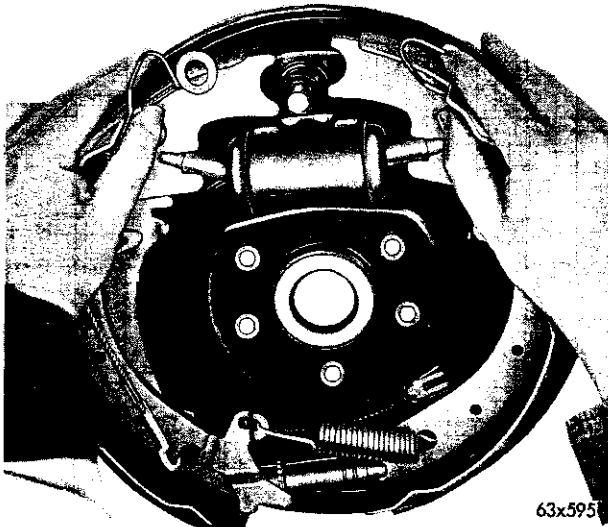

Fig. 6—Installing the Brake Assembly
- (3) Overlap the anchor ends of the primary and the secondary brake shoes and install the adjusting spring and lever.
- (4) Spread the anchor ends of the brake shoes to maintain the adjusting lever and spring in position.
- (5) Holding the brake shoes in their relative position, place the brake shoe assembly on the backing plate and over the anchor pin (Fig. 6).
- (6) Install the retainer rods, cups, springs and retainers.
- (7) Install the anchor pin plate.
- (8) Install the cable guide in the secondary shoe and place the "eye" of the adjusting cable over the anchor pin.
- (9) Lubricate the groove of the cable guide and place the adjusting cable over the guide and engage the hook of the cable into the adjusting lever.
- (10) Using Tool C-3785 install the return spring into the primary shoe.
- (11) Install the secondary return spring.
- (12) Lubricate the wheel bearings and install the brake drum and adjust the wheel bearing.
- (13) Adjust the brakes.